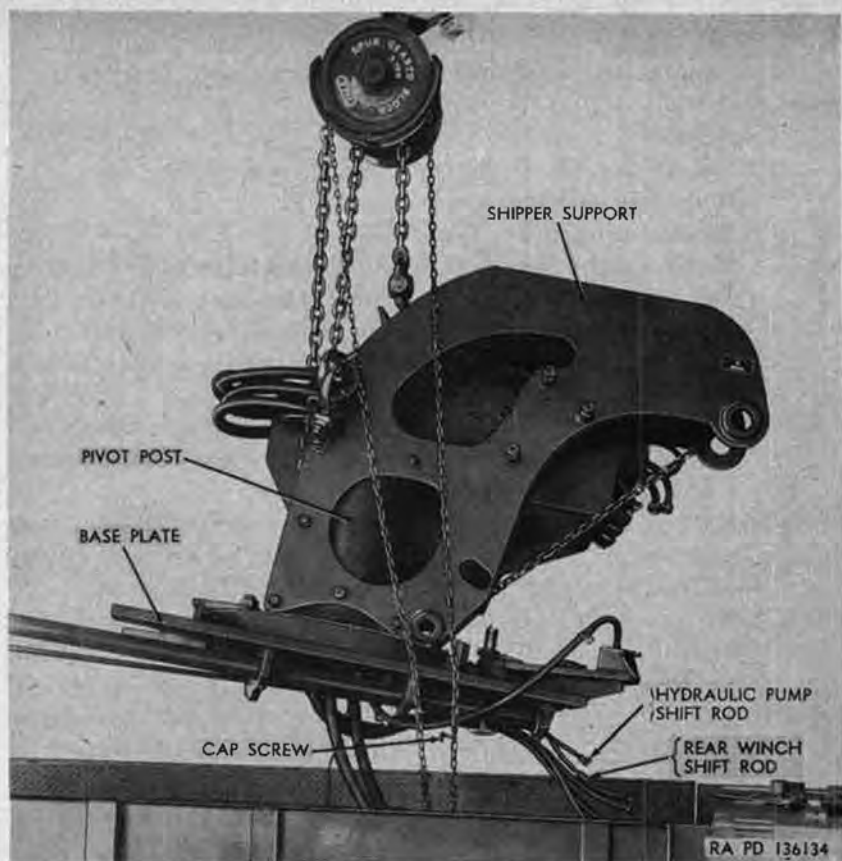

Figure 299. Removing base plate and pivot post assembly from crane body M62.
- (16) Remove hex nut from cap screw (fig. 299) securing base plate to hydraulic lines support bracket (fig. 295).
- (17) Place a chain under the operator's compartment and between the shipper support (fig. 299), and using overhead hoisting equipment, remove base plate and pivot post assembly from crane body.
- (5) Place hydraulic lines over support bracket (fig. 295), and secure bracket to base plate with cap screw (fig. 299) and hex nut.